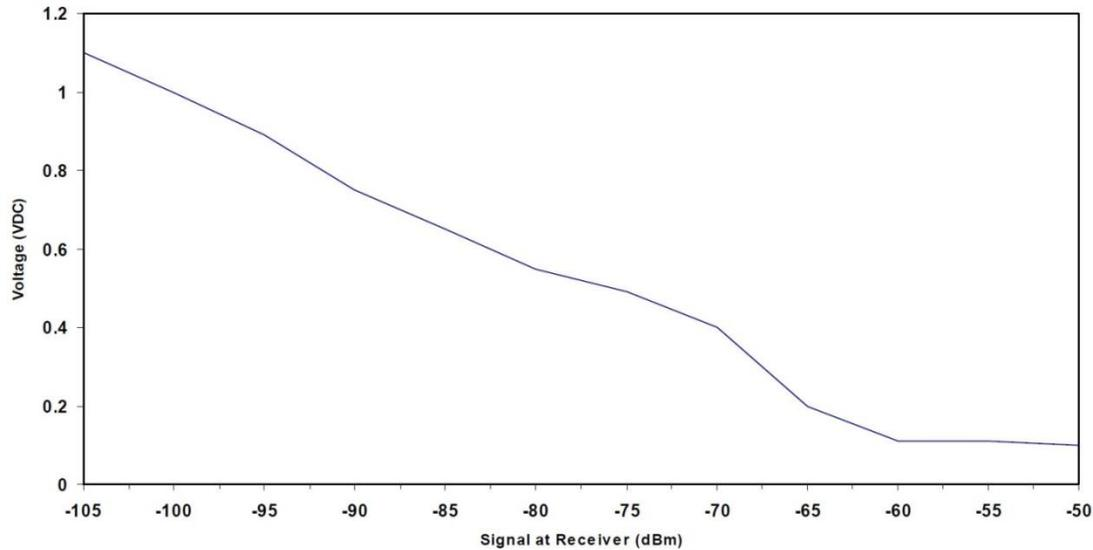

Figure 1: RSSI Voltage vs. Received Signal Strength
**Validated RSSI** As RSSI is only valid when the local transceiver is receiving an RF packet from a remote transceiver, instantaneous RSSI can be very tricky to use. Therefore, the transceiver stores the most recent valid RSSI value. The OEM host issues the Report Last Good RSSI command to request that value. Additionally, validated RSSI can be obtained from Receive Packet and Send Data Complete API commands and from the Probe command. Validated RSSI is not available at the RSSI pin. The following equation approximates the RSSI curve, which is illustrated in Figure 1.